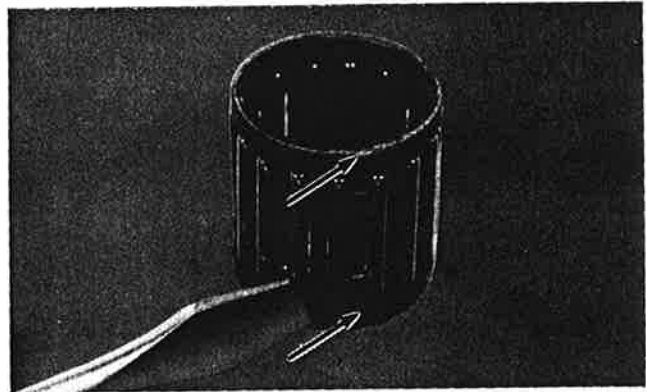

Fig. 3-3-10
3. Check the bearing cage for excessive wear or damage. Check the rollers for signs of flat spots. If found replace pin and bearing. (Fig. 3-3-10)